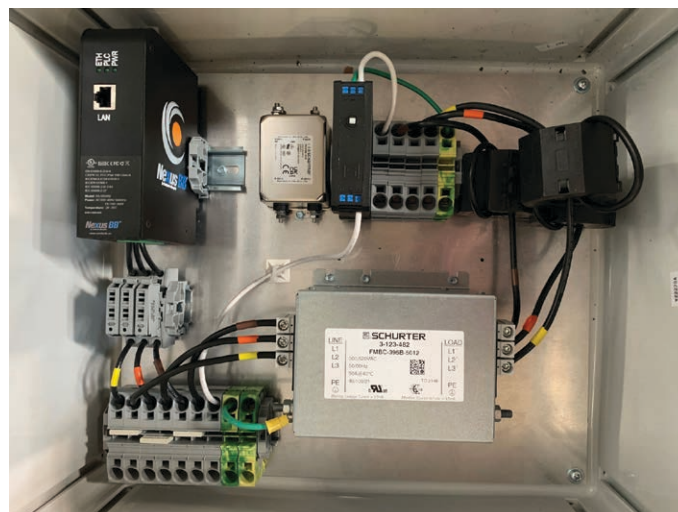

Figure 6-11
- Ferrite cores are required on motor drive input (one per phase). **See Figure: 6-11**